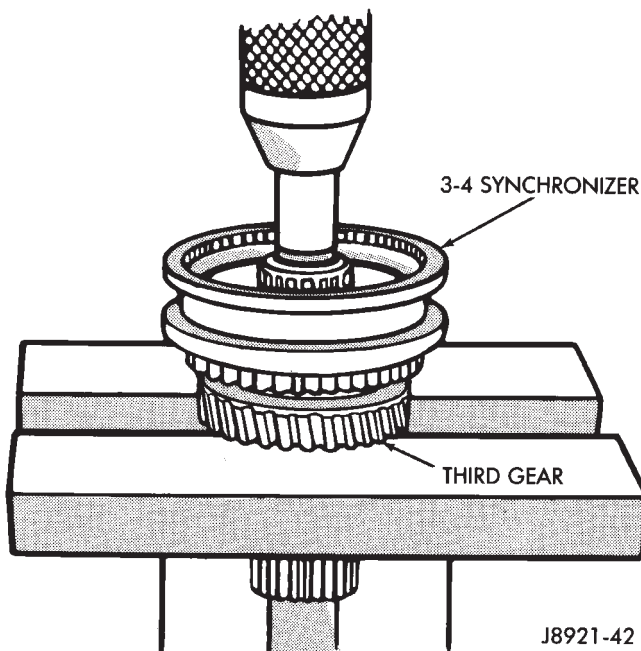

Fig. 107 Remove 3-4 Synchronizer And Third Gear
- (11) Using Bearing Splitter P-334 or suitable press plates positioned under third gear, press the 3-4 synchronizer and third gear from output shaft (Fig. 107).